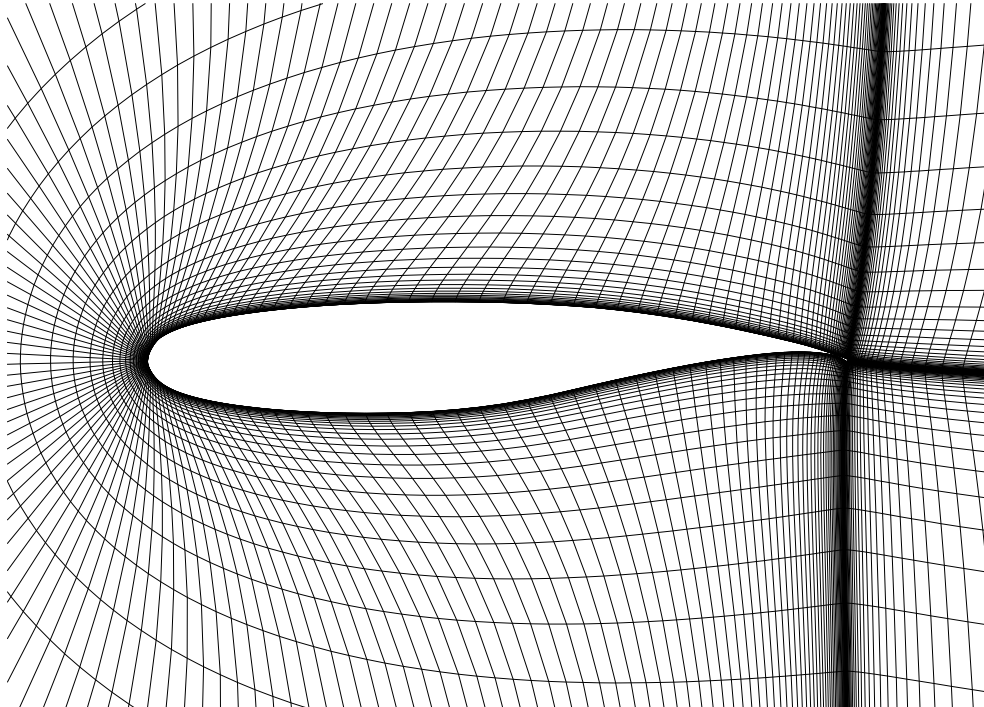

Figure 6.15: Smoothed grid for Test Case 5
6. Elliptically smoothed H-grid plot (figure 6.15)